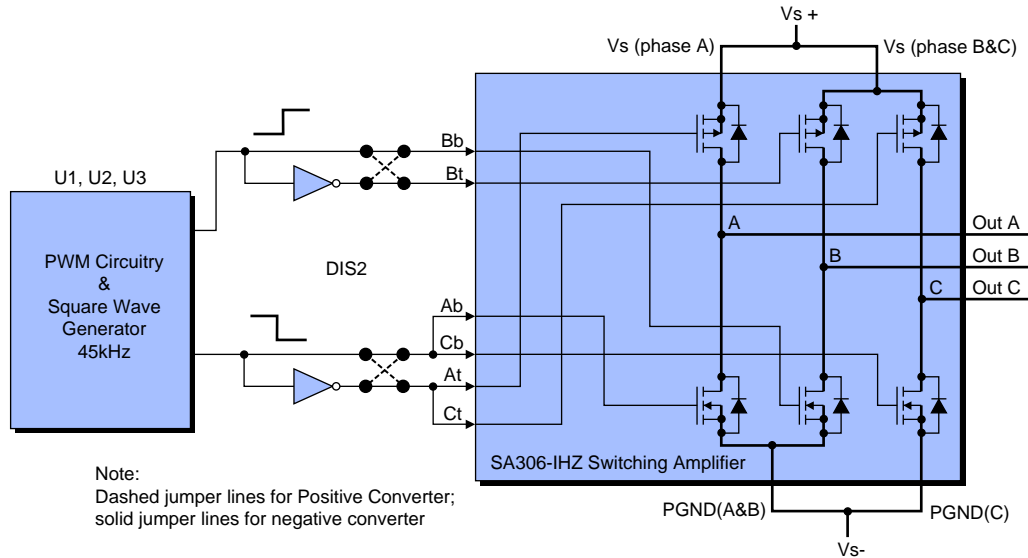
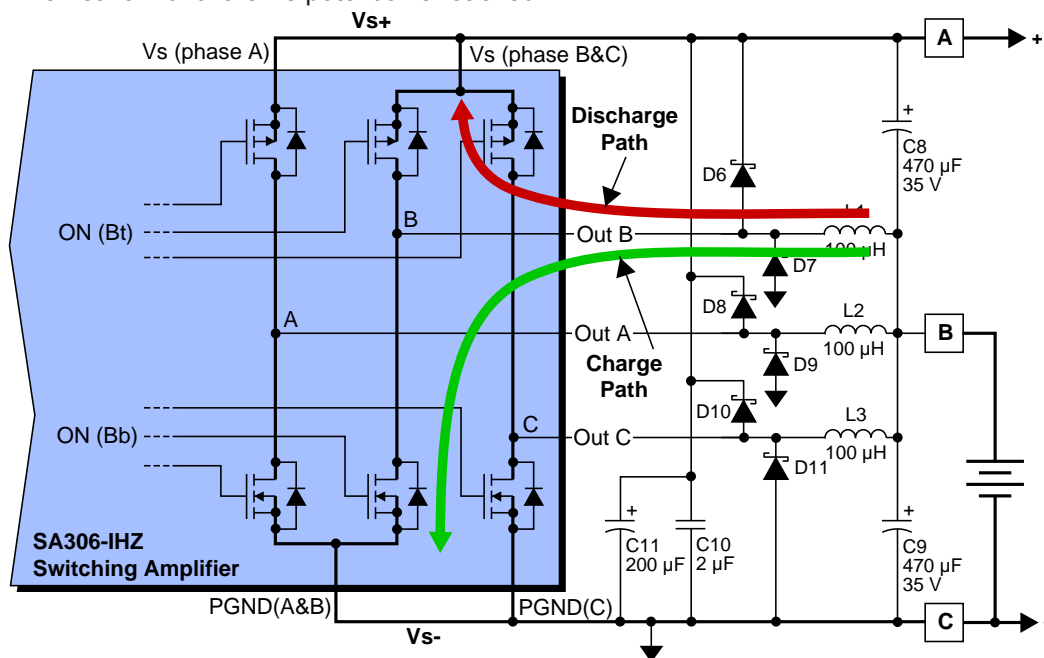
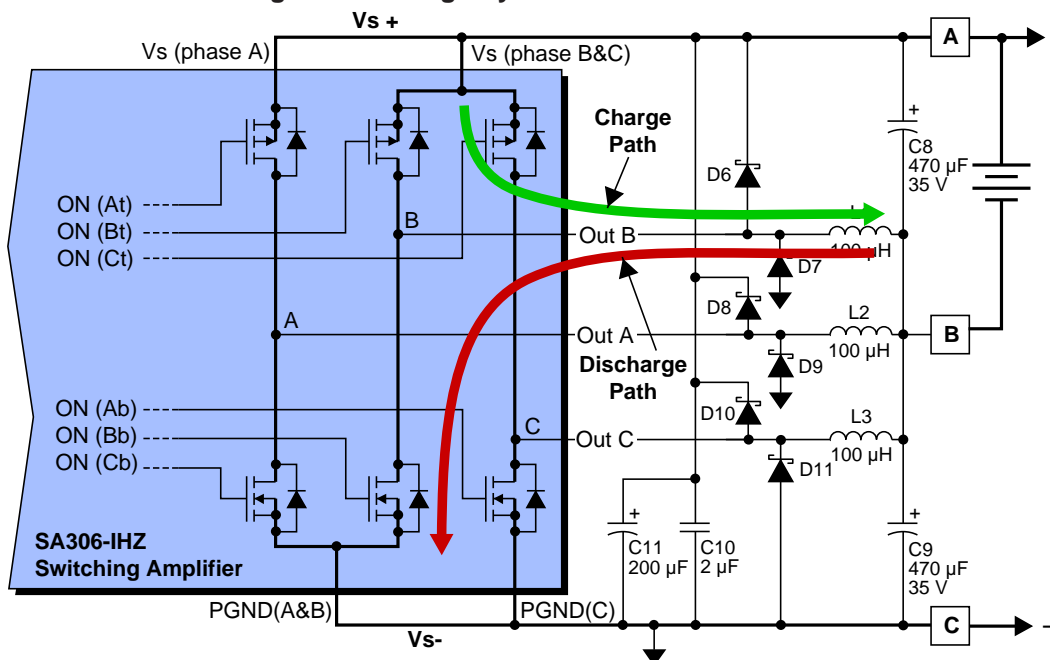
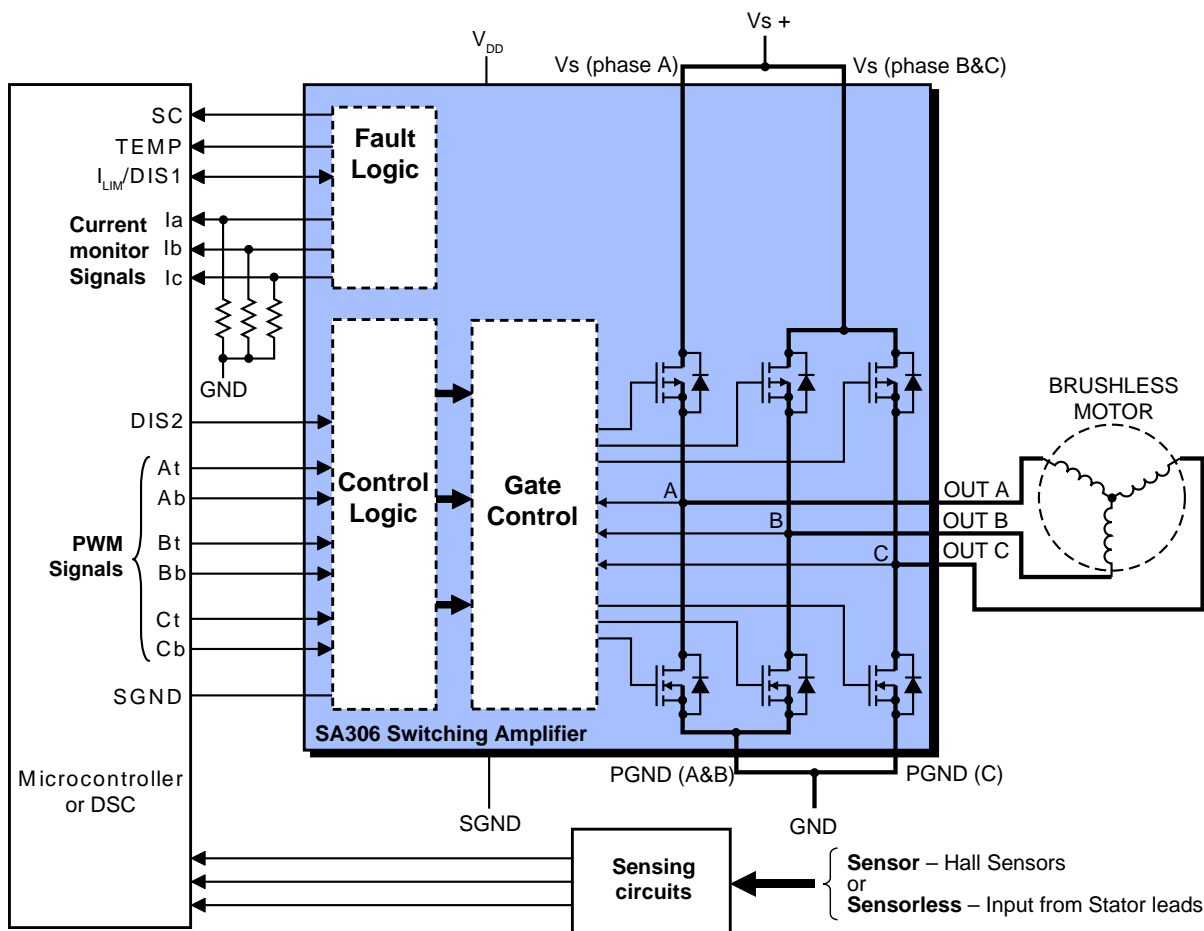

Figure 2. PWM Circuitry Interface with the SA306-IHZ Inputs – Simplified
Figure 3 – Charge Dynamics – Positive Converter
Figure 4 – Charge Dynamics – Negative Converter
Figure 1. System Block Diagram using the 3-Phase SA306-IHZ Device
This Application Note describes a novel DC converter design concept that uses the SA306-IHZ monolithic three-phase switching amplifier1,2. The converter is depicted schematically in Figure 1. It can be thought of as a ‘black box’ module that is suitable for a variety of applications such as converting +28 volts to -48 volts (relative to the +28 volt input) and -20 volts (relative to the -28 volt input), and able to deliver a minimum of 8.5 amperes of combined output. The module is jumper configurable as a positive or negative input converter. A minor circuit change (Figure 1, Note 5) allows the module to convert +48 volts to +20 volts at 15 amperes of output (representing 91% efficiency), or -48 volts converted to -28 volts with 14 amperes (a 93% efficiency). For simplicity’s sake, the design is limited in scope but has proven to be quite usable and robust despite the limitations listed below, and in the section entitled Miscellaneous Design Notes on page 9. This design assumes a well regulated voltage input because of limited loop gain. The output voltage regulation is  $\pm 1\%$  to  $\pm 3\%$  over the full output load range with an input voltage delta of 300 mV. There is no boost mode current limit circuit included for a number of reasons, one of which is that the input is diode coupled to the output — output currents in excess of 15 A will exceed the diode current/wire bond ratings. Transient load response is quite good with full recovery in about 3 milliseconds. Efficiencies of approximately 94% are realized with a 48 V output and approximately 85% with the 20 V output, as depicted in the application illustrations that follow.
**Figure 1. Polarity is Easily Switched** — DC-to-DC converter, three terminal module can be switched from a positive to a negative converter by simply interchanging the jumpers identified by Note 2. (**Caution:** Make sure the A,B,C terminal connections correspond to the new configuration, otherwise the SA306-IHZ will be destroyed when power is applied.)
The drive circuit shown in Figure 1 comprises three Texas Instruments TLC555 CMOS Timers, as well as the left block in Figure 2. In Figure 1, U1 serves as a 45 kHz oscillator. It, in turn, drives U2 and U3 which can be thought of as pulse width modulators (PWMs). As can be seen in Figure 1, U4A inverts the input to U3 so that it operates out of phase with its companion, U2. Even though the SA306-IHZ is a three-phase device with three sets of MOSFET half bridges, A, B and C operate in this application as a two-phase switch. Notice at the bottom of Figure 2 that Ab and Cb, as well as At and Ct are tied together, transforming the operation of the SA306-IHZ in to a two-phase operation. The two waveforms shown in Figure 2 are there to underscore the fact that the B phase (Bt and Bb) and the A & C phases (Ab, Cb) and (At, Ct), are always driven out of phase with each other. These out-of-phase signals toggle the inputs to the MOSFETs in the switching amplifier SA306-IHZ (U5). This alternating toggle arrangement distributes the power properly within the SA306-IHZ die, allowing maximum current throughput and reducing ripple current.
**Positive Converter** – For the positive converter configuration shown in Figure 3, inductor L1 is charged during the ON interval through the bottom MOSFET (Bb) switch. Inductor L1 sees  $V_{s-}$  on the left side and  $V_{bat}$  plus on the right; therefore, the current is essentially a ramp, as depicted in the figure because the voltage across the inductor is essentially constant and current is the integral of voltage. Then during the OFF interval the inductor discharges through the top MOSFET switch (Bt), exiting through terminal A to the attached load. Again, the same occurs for the A and C MOSFET switches during alternate cycles except their inputs are tied together, as shown in Figure 2, and therefore the At-Ct and Ab-Cb pairs are driven in unison.
**Negative Converter** – For the negative converter configuration shown below in Figure 4, inductor L1 is charged during the ON interval through the MOSFET (Bt) switch. When the Switch transfers to the "charge" mode, inductor L1 discharges through the bottom MOSFET switch (Bb) into the power ground. The same occurs for the A and C MOSFET switches during the alternate cycle except their inputs are tied together, as shown in Figure 2, and therefore At and Ct and Ab and Cb pairs are driven in unison.
This is essential because if there is no load connected, and the Boost Circuit is run off a 30 V power supply, it would be possible to obtain a 2 to 1 output voltage — plus, a small potential due to the inductance. This could destroy the SA306-IHZ. R9 should be set to maximum resistance when configured for Buck mode (Figure 1, Note 5).
**Capacitors C10 and C11** – Capacitors C10 and C11 are shown as bulk values in Figures 1, 3 and 4. These may be distributed between the Vs and the power ground terminals of the IC to provide adequate bypass.
Both the SA306-IHZ and SA57-IHZ devices incorporate all of the sub-systems necessary to drive a brushed or brushless DC motor under the control of an MCU or DSP. At maximum output these devices are capable of safely operating motors approaching 0.5 hp. Like many traditional motor drive products, SA devices integrate control, power supply, gate drive and power stage into a single IC. Unlike competing devices, this series is specifically designed for MCU or DSP control and integrate features that enable implementation of modern commutation techniques, resulting in higher efficiency drive stages. Both SA306-IHZ and SA57-IHZ devices consist of major blocks, as shown in Figure 1. The primary difference between the two devices is the number of phases supported; the SA306-IHZ supports three phases while the SA57-IHZ supports two.